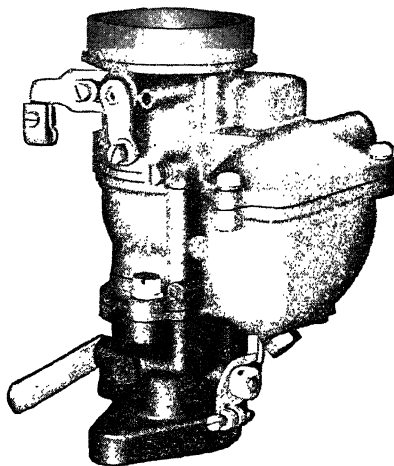

Fig. 40. Zenith IN-180 Down-Draft Carburetor
**"IN-180" Series Carburetors.** The Zenith "IN-180" Series carburetor, Fig. 40, has been especially designed to meet every condition encountered in down-draft carburetion. This includes provisions in design that insure positive, smooth idling, elimination of over-choking, and other difficulties already known to many users of down-draft carburetors.